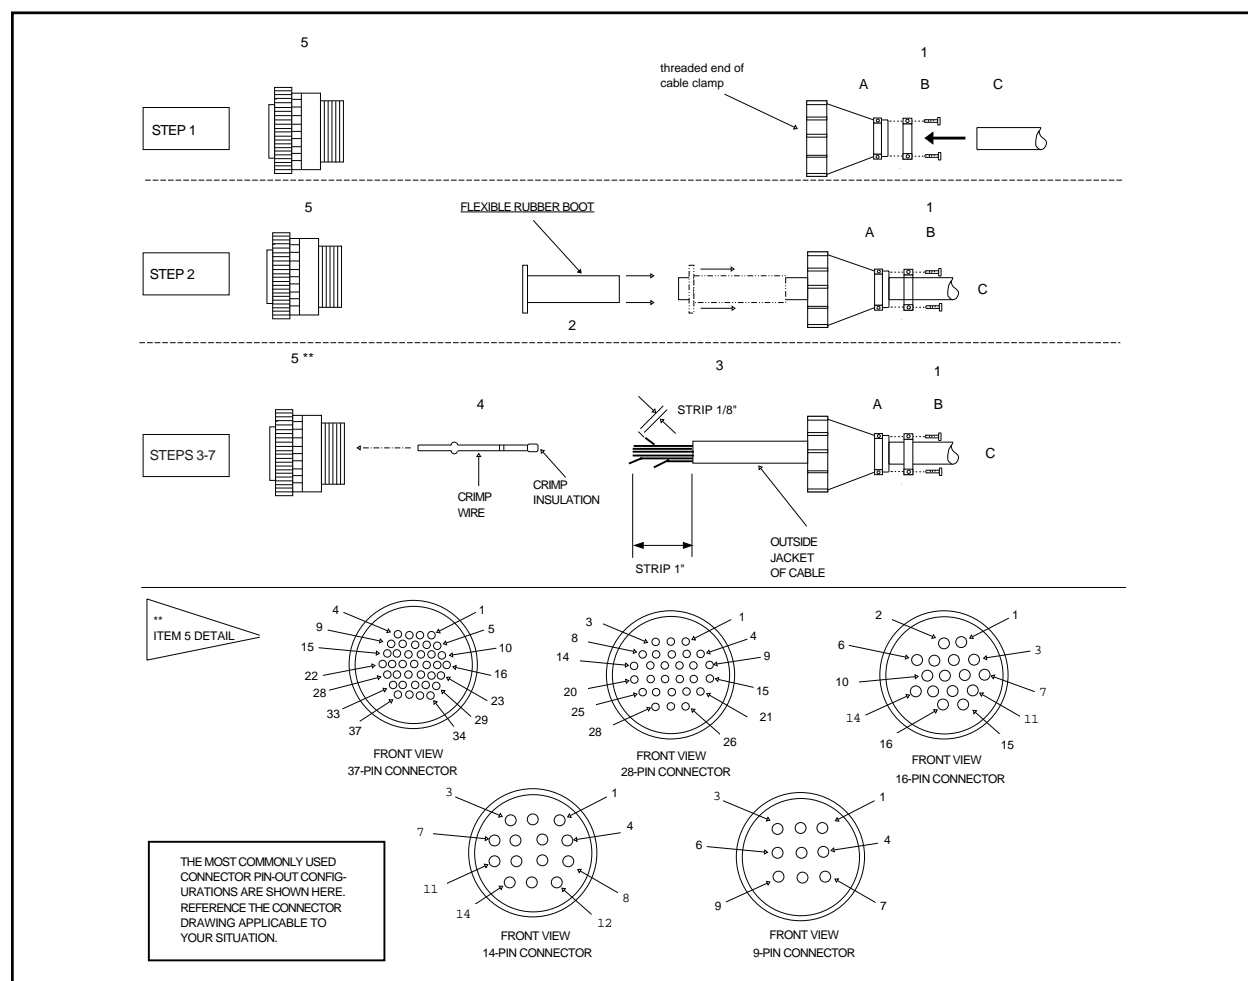
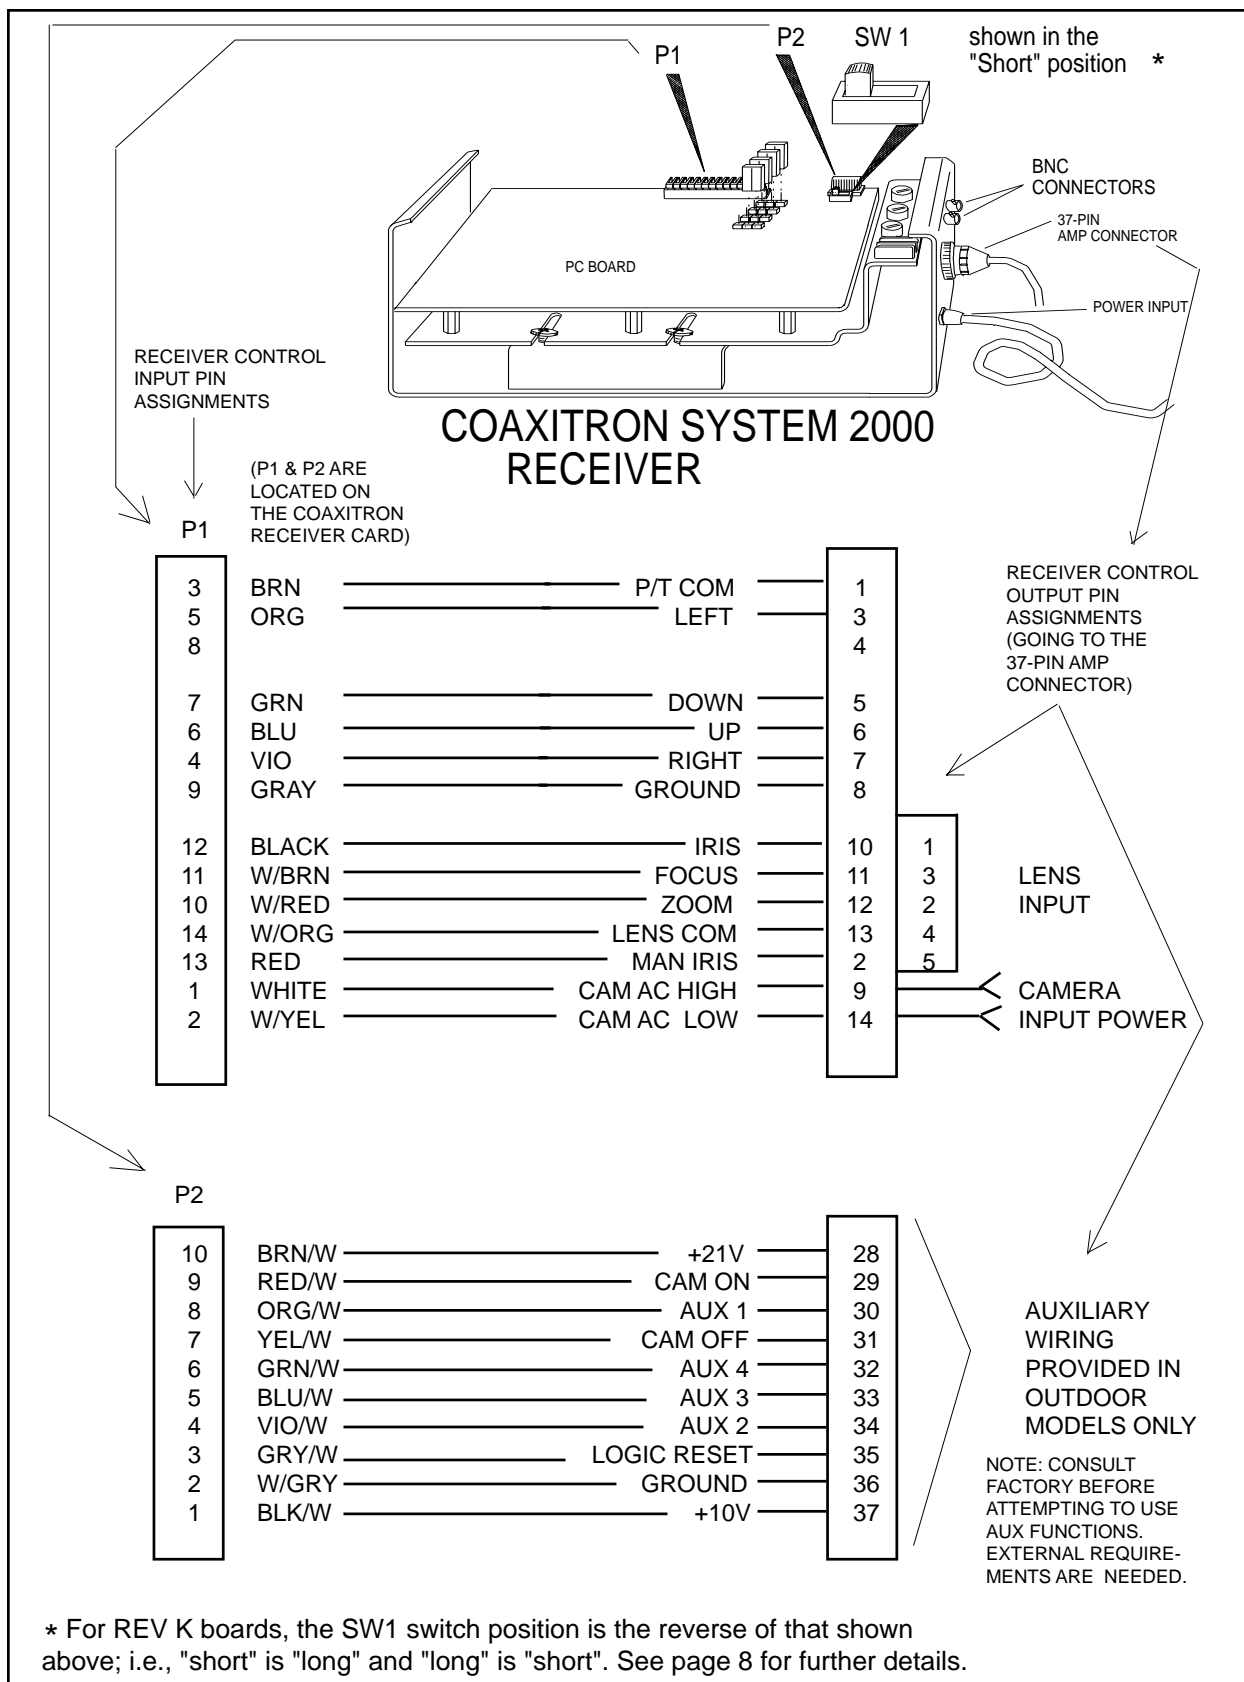
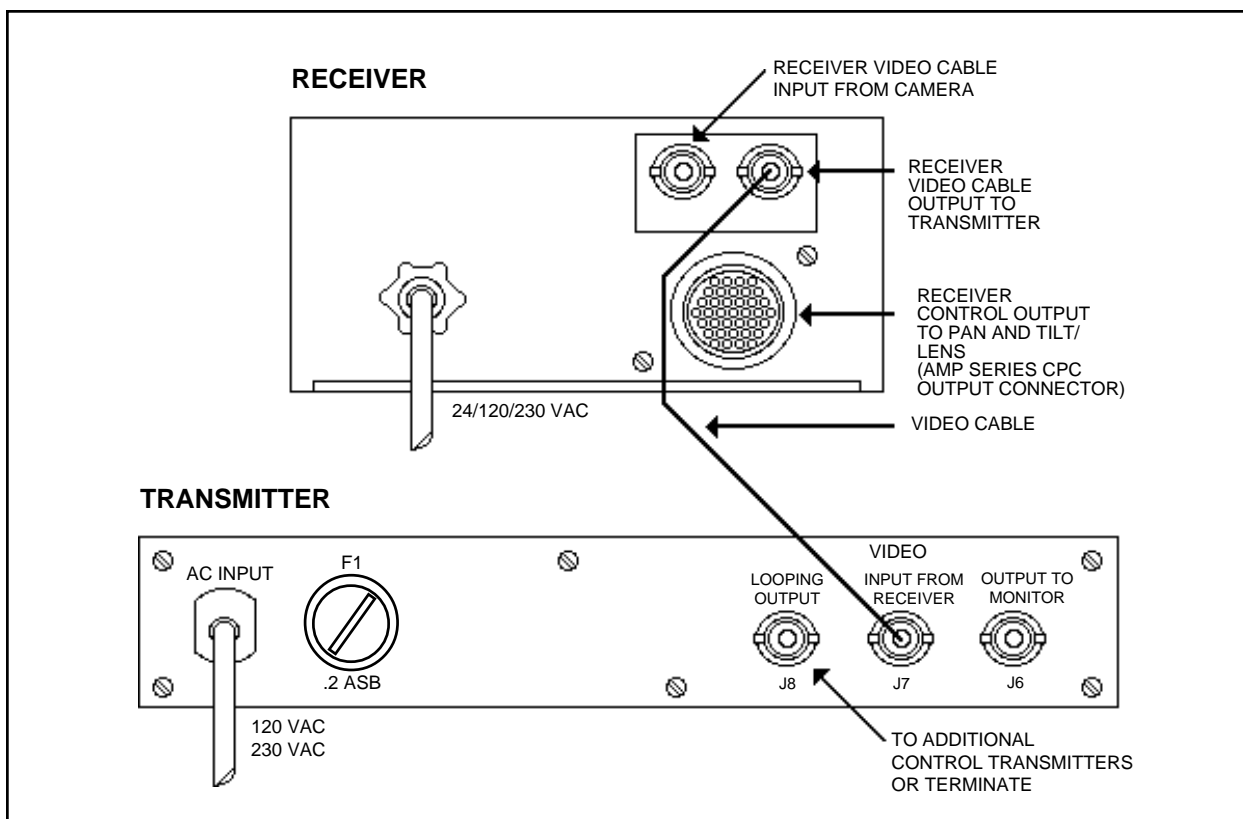

Figure 4. Connector Assembly
Figure 5. Receiver Control Output/Input Pin Assignments
Figure 10. Coaxitron System 2000 Basic Interconnect Diagram
Coaxitron System 2000 installation includes the connection of all coaxial cable to the proper connectors, depending on your system configuration. Various connector assembly pin-out geometries are shown in Figure 4. Connector location and pin assignments are illustrated in Figure 5.
Installation and/or testing will require you to assemble the connector parts provided. Fabricate the interconnecting cable according to the following steps (reference Figure 4).
6. Slide part A of the cable clamp toward the connector and screw the parts together. Attach part B (item 1) onto part A and connect both parts with the screws provided.
7. Connect the cable assembly to the unit and seat the connector by twisting the locking collar until it snaps into position (see Figure 5 and Figure 10).
The switchers depicted in Figure 10 are hard contact devices and do not have isolation or bridging amplifiers. In each case, the Coaxitron transmitter acts as the isolation or bridging amplifier. Do not use VA500 series switchers with Coaxitron systems.
Note: For configurations where RG59 cable length between the transmitter and receiver exceeds 750 feet, it is necessary to reset switch SW1 on the receiver board (PCB1500529) from SHORT to LONG. The switch should be left in the SHORT position when using shorter lengths of RG59 cable or when using RG11 cable (see Figure 5). For RG11 cable, the upper limit is 1800 ft. In any case, these operating distances can be extended by using the EA2000. See the table on page 26.
Coaxitron System 2000 basic interconnections between the transmitter and receiver are shown in Figure 10. If you have chosen a configuration that includes a switching device, refer to the manual provided with the switcher for the appropriate connections.
The transmitter is housed in a 1-3/4" high enclosure, supplied as a desk top unit (rack mount available). Three video connectors (J6, J7, J8) are located on the rear rail (see Figure 10). J8 allows the user to loop the camera signal from one transmitter to another, or to terminate the signal by installing the appropriate resistor. Connector J7 accepts the camera signal from the receiver, and J6 provides an output for monitoring equipment.
surface for entry of AC power line (120/230/24 VAC). (See Figure 10.)
Normally, this is the video signal from the camera serviced by the receiver. The receiver provides a 75 ohm cable termination and an isolation amplifier to prevent the control pulse train from being fed to the camera. (See Figure 10.)
All control signals from the receiver are available from an AMP Series CPC output connector, except for optional auxiliary functions. (See Figure 10.)
The usual output for camera power is 24 VAC accessed at pins 9 and 14 of the 37-pin AMP connector (see Fig. 5) where CAM AC HIGH and AC LOW emerge as CAMERA INPUT POWER. The output pin assignments remain the same for 12 VDC camera power options, only now pin 9 (WH) is positive (+) and pin 14 (WH/YEL) is negative (-).
The transmitter usually provides for the 75 ohm termination of the cable from the receiver. However, the user may alter this termination in order to loop through and terminate further downstream. (See Figure 10.)
WARNING: Power for enclosure models utilizing heater/blowers cannot be tapped off the secondary of the Coaxitron receiver transformer or off of camera AC power (see Figure 5, Pins 9 and 14). Instead, for example, enclosure power for these purposes could be run off of the primary of the Coaxitron transformer and routed to the enclosure via unused Pins 15 and 16 of the 37-Pin connector.